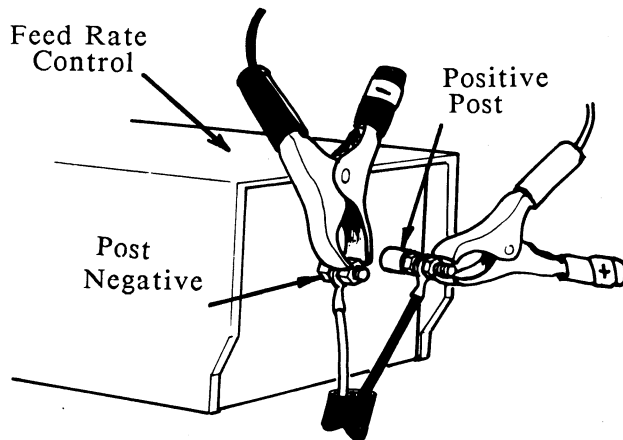

FIGURE 1
2. When using the LTADS in the field with a LT30 or LT40 Wood-Mizer, use the provided socketed pigtail with battery clips. Attach the clips to the back of the power feed control as shown in **Figure 1**. The positive lead (red) should be clipped to the longer of the two power feed posts. Ground the negative clip (black) to the short power feed post.